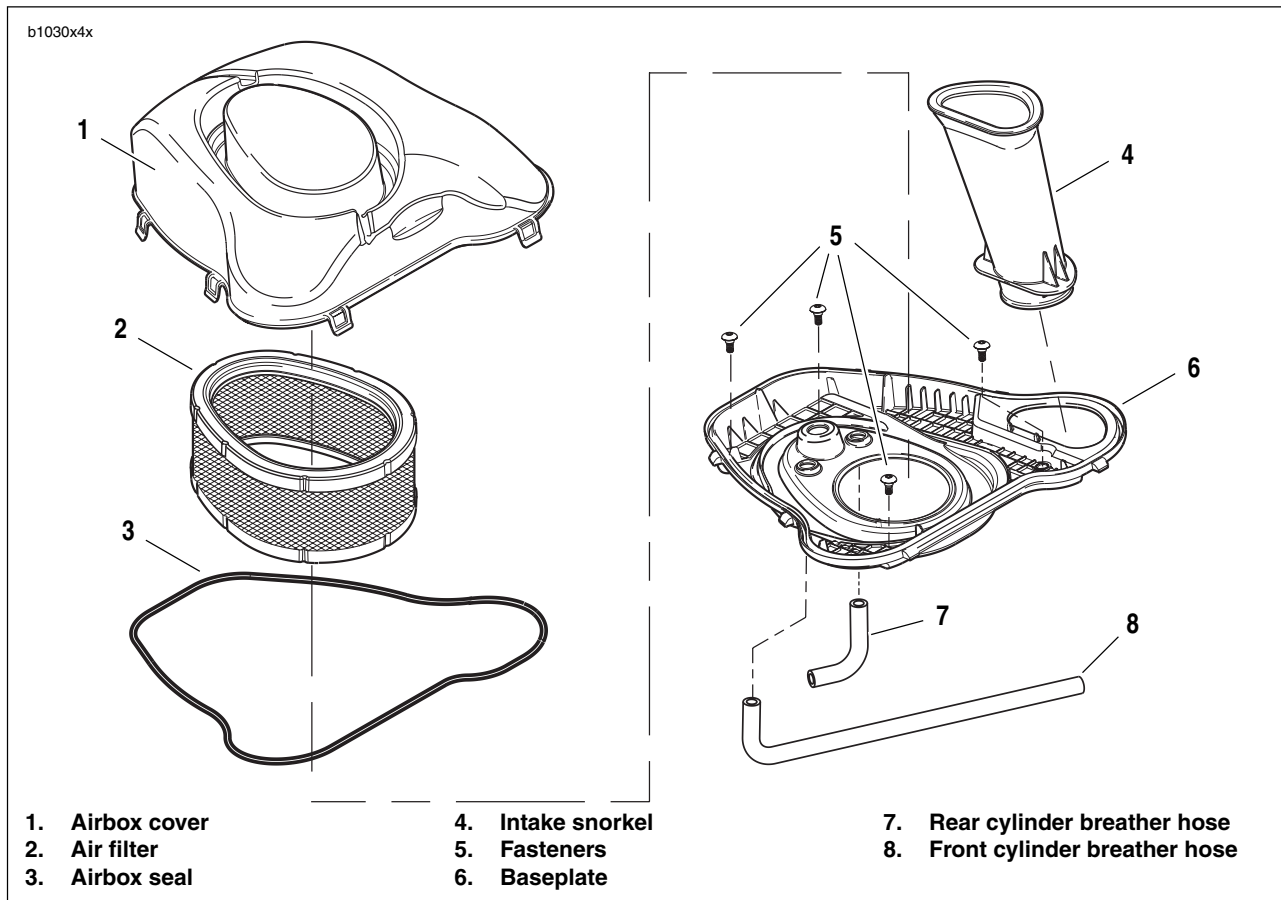

Figure 4-112. Airbox (Typical XB9S)
1. See Figure 4-112. Hold base plate above mounting position.